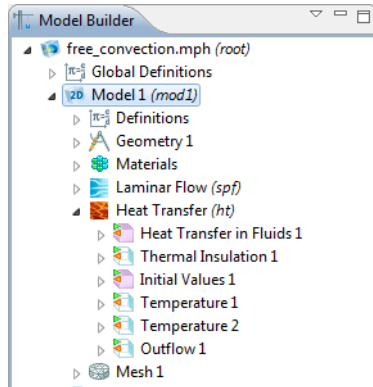

Figure 7-1: An example of the Model Builder default nodes.
After clicking the **Finish** button (  ) in the **Model Wizard**, the **Model Builder** window displays a model tree with a set of default nodes—**Definitions**, **Geometry**, **Materials**, **Mesh**, and nodes based on the physics interfaces selected (see Figure 7-1). The **Model** nodes and branches form the sequence of operations that define your model.
- **Physics:** Any added physics or mathematical interface displays as a node under **Model** (**Heat Transfer** in Figure 7-1 for example).